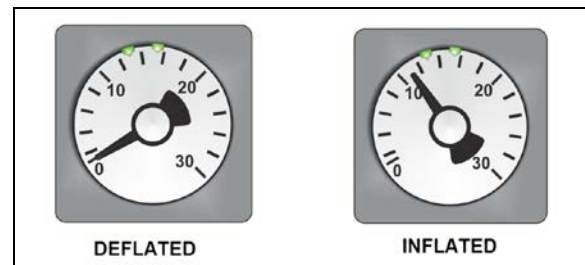

FIGURE 42: INFLATABLE SEAL PRESSURE GAGE
4. Finally, the inflatable seal can be re-inflated by turning the shut-off valve handle counterclockwise. Check the pressure gage on the inflatable seal regulator to see if the pressure increases to around 11 psi (Figure 42). Needle should be pointing between the two small green marks on the dial.
on the inflatable seal regulator to see if the pressure is increasing to 11 psi (Figure 42).